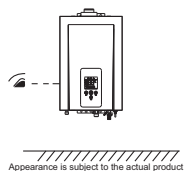
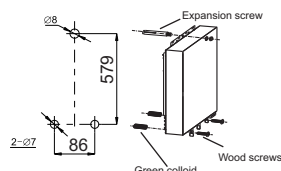

Figure 7
Figure 8
1. Determine the installation position (see the installation precautions for details) and the installation height. The height should be the same as that of the water heater's operation display panel and the level of human eyes (Figure 7). Drill holes according to the location and requirements shown in the figure (Figure 8). The holes should be drilled to ensure that the water heater can remain vertical after installation.